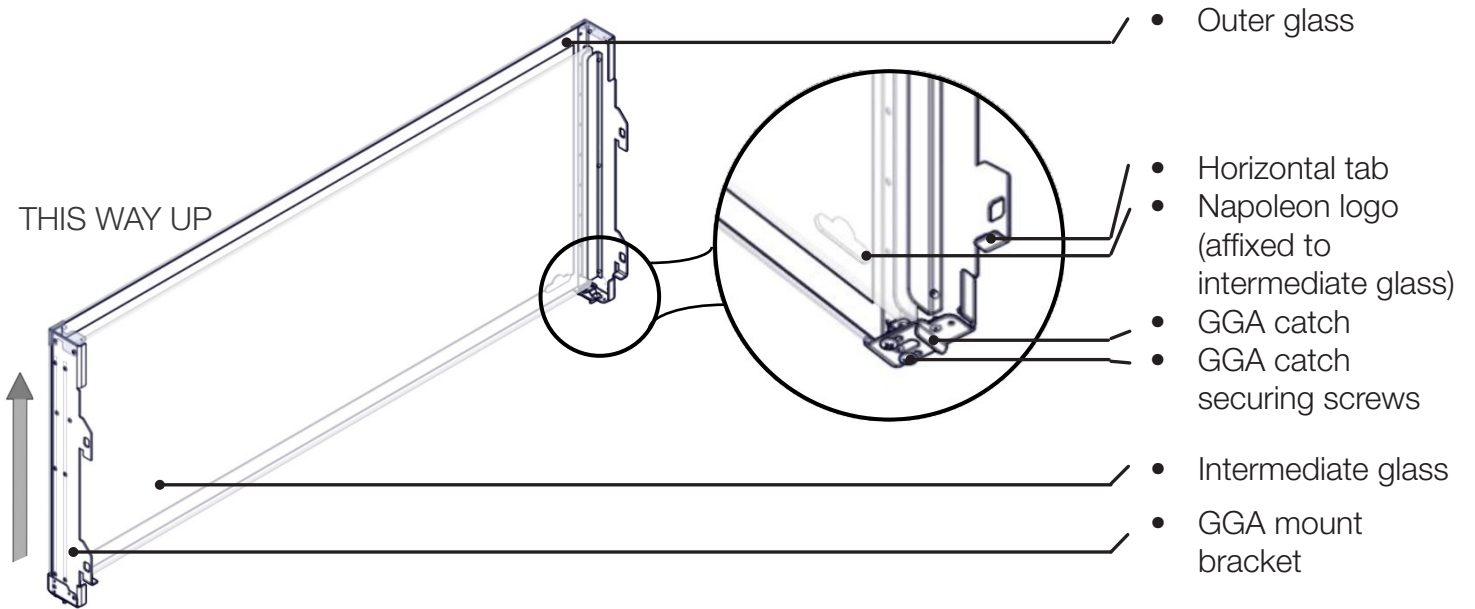

Fig. 1
2. Ensure to handle the GGA as shown (**Fig. 1**) as the floating intermediate glass might fall out of the assembly if handled incorrectly.